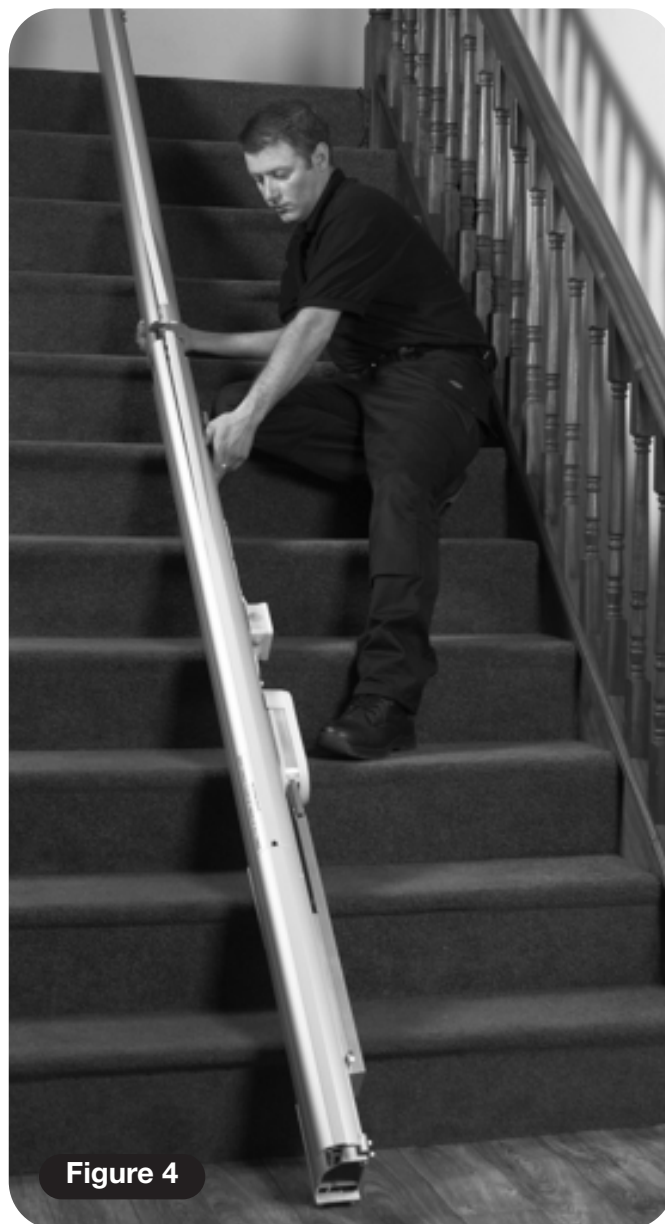

Figure 4
- 3 Position the top section of track adjacent to the bottom section of track (**Figure 4**).